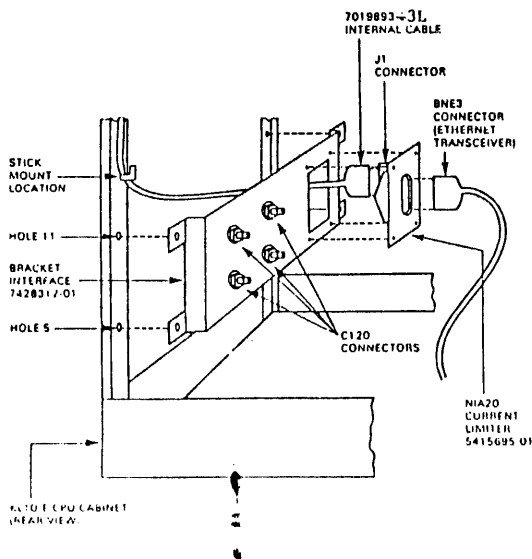

Figure 3-8. NIA20 Current Limiter
4.5.1 Installation Of NIA20 Current Limiter - The NIA20 Current Limiter, DEC part number 5415695-01 is pre-installed on the Bracket Interface, DEC part number 7428312-01, as shown in Figure 3-8. The Bracket Interface, NIA20 internal cable, and BNE3 external cable are installed at the site as follows:
2. Connect the internal cable to the rear J1 connector and also connect the BNE3 external (Ethernet Transceiver) cable to the front P1 connector located on the NIA20 Current Limiter (see Figure 3-8).